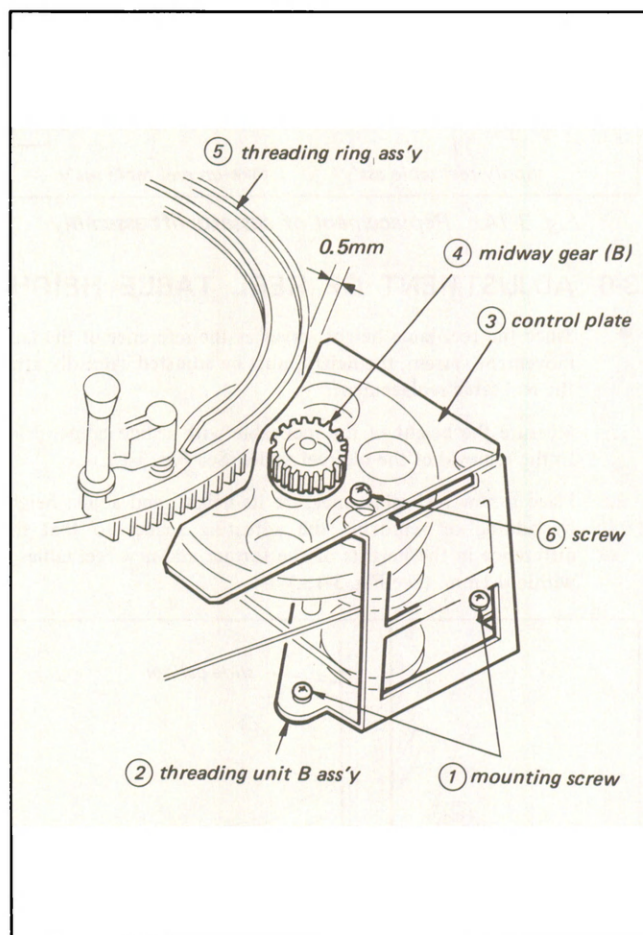

Fig. 3-19. Position adjustment of threading unit B assembly and control plate
1. Push down the cassette detection lever with fingers to perform the threading operation and release the lever when the threading ring assembly (5) shown in Fig. 3-19 has turned 90 degrees.
2. Loosen screws (1) shown in Fig. 3-19. Make the clearance (0.2mm) between midway gear (B) (4) and threading ring assembly (5) and tighten screws (1).
3. Make a clearance of 0.5mm between control plate (3) and threading ring assembly (5) and tighten screw (6).